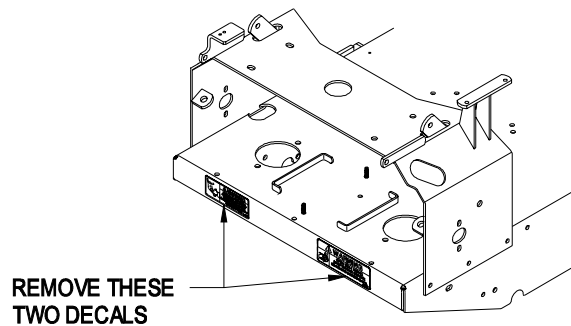

FIGURE 2
2. Remove the two decals on the lower rear surface of the engine deck. See Figure 2.